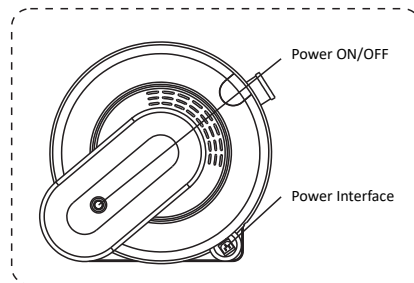

Figure 7.1.2
a) One end of the power cord is plugged into the terminal board at the bottom support of the right side of the machine, and the other end into the socket of 220V / 50Hz with reliable grounding. See fig. 7.1.2.
b) The power switch is located at the batter brace of the right side of the machine. See fig.7.1.2. It is the on/off switch of AEOLUS UC-1805 ICU. INCBATOR. When it is locked, all other keys are void; when it is unlocked, all other keys are valid.